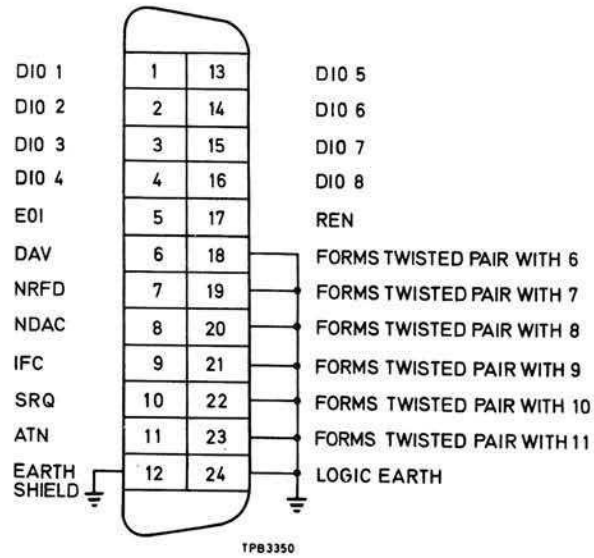

Fig. 8 GPIB connector contact assignments
73. The contact assignment of the GPIB cable connector and the device connector is as shown in Fig. 8 below.